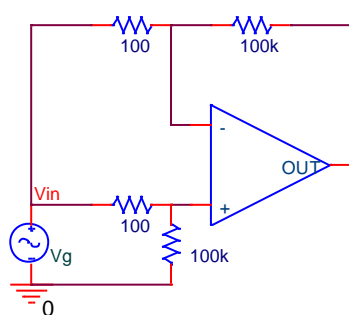
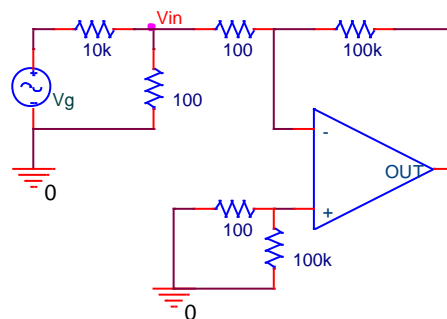

Figure 4
Figure 5
💡 In the lab, you will build two circuits in order to measure CMRR; these are depicted in Figure 4 and Figure 5.
- 5.3. In the lab, the op-amps will not be ideal. Explain: in which range will you choose your input amplitude for the circuit in Figure 4, 2-4VRMS or 50m-300mVRMS?
- 5.4. Repeat the previous section for the circuit in Figure 5. Why are the  $100\Omega, 10k\Omega$  resistors connected between  $v_g$  and  $v_{in}$  absolutely required for an accurate gain measurement?